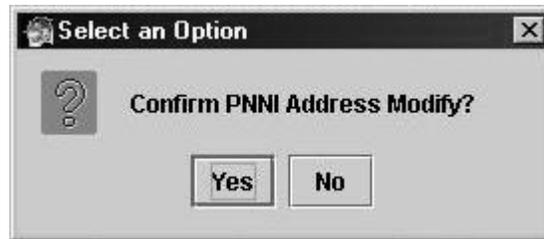

Figure 8-13: Confirm Modify Interior IISP Address Dialog
3. Click **MODIFY**. The Select an Option dialog displays. See Figure 8-13.